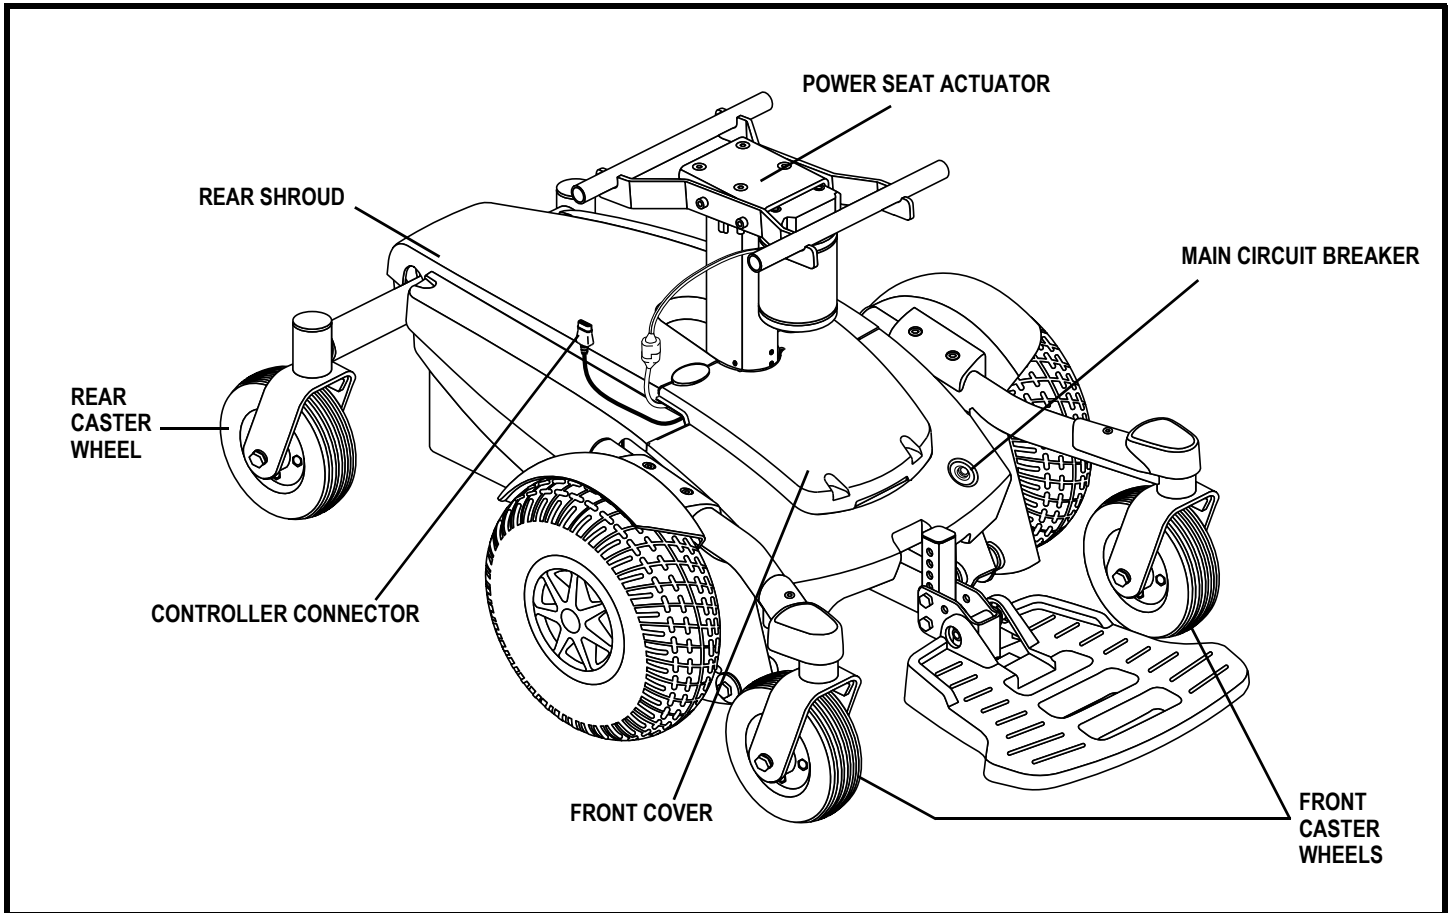

Figure 8. The Jazzy Select 6 with Power Seat
6. Plug the controller harness into the connector on the power base. See figure 8.